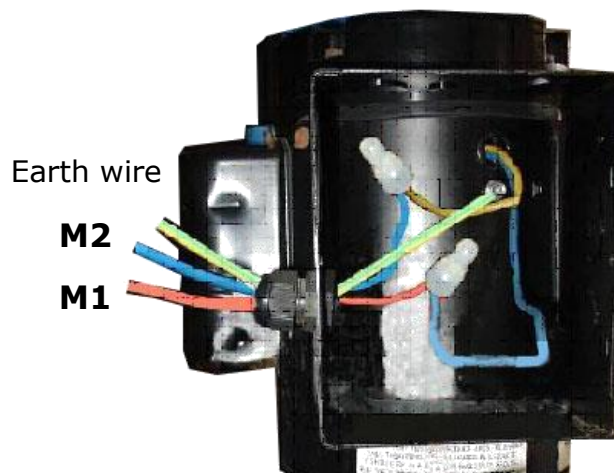

Fig. 39
7.2 220V Wire connection of hydraulic power unit (See Fig. 39).